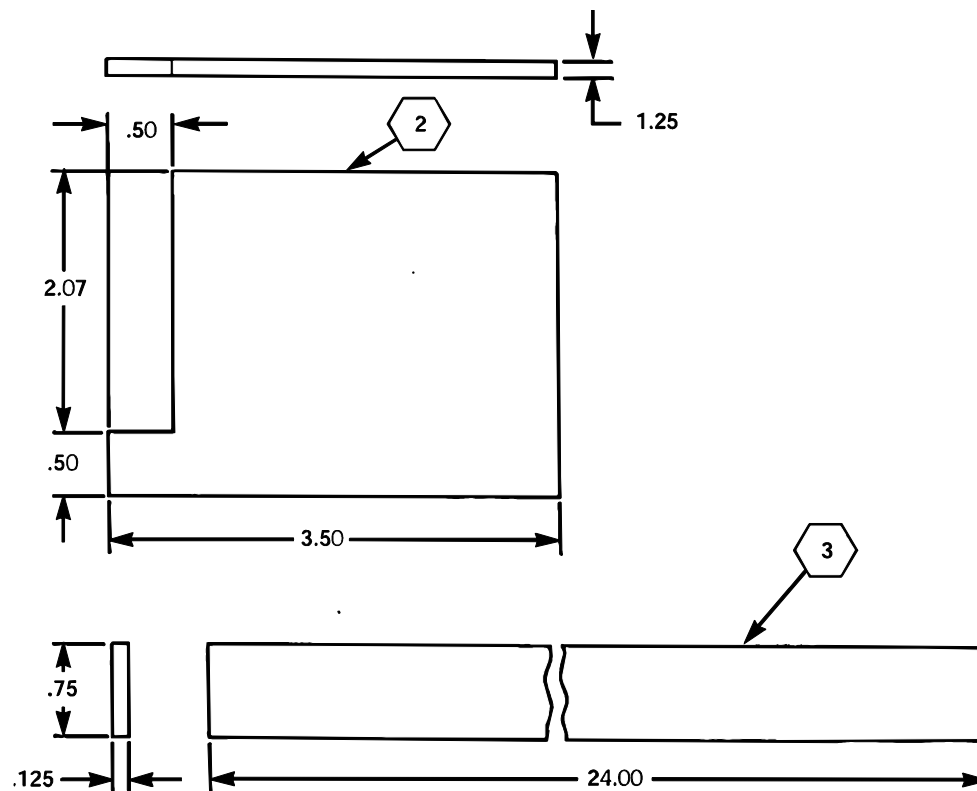

Figure 2
1. Cut all material to size as shown in figure 2.